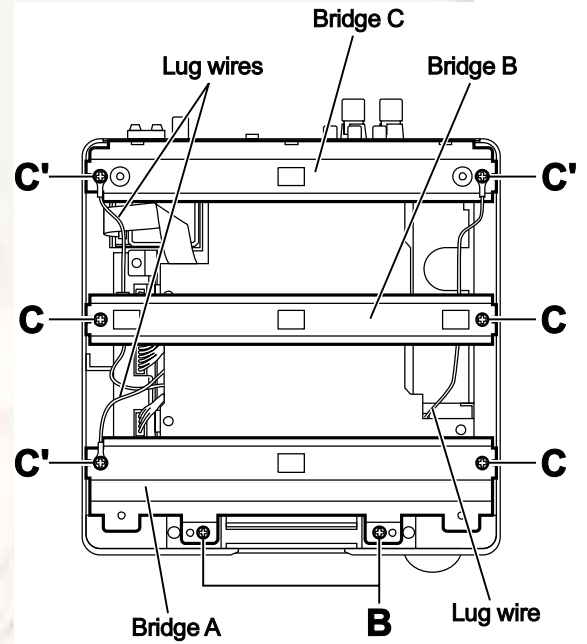

Fig.2
3.1.2 Removing the AL panel L and AL panel R (See Figs.2 to 7.)
- Remove the two screws **B**, screw **C** and screw **C'** attaching the bridge A. (See Fig.2.)
When attaching the screw **C'** attach the lug wire with it. (See Fig.2.)
- Remove the two screws **C** attaching the bridge B. (See Fig.2.)
- Remove the two screws **C'** attaching the bridge C. (See Fig.2.)
When attaching the screws **C'** attach the lug wires with them. (See Fig.2.)